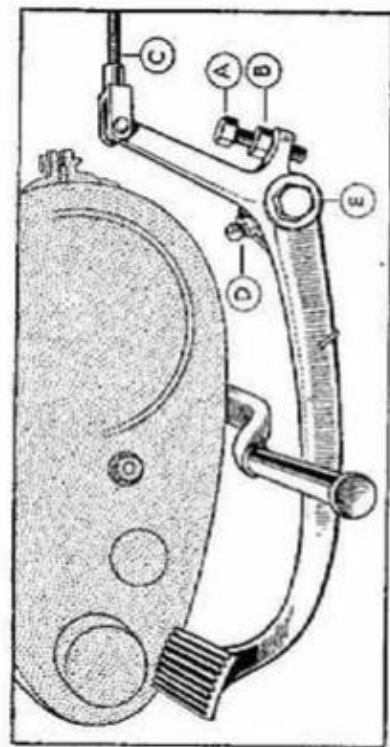

FIG. 14. THE SIMPLE BRAKE PEDAL ADJUSTMENT
- (1) Adjust the position of the rear brake pedal to suit individual requirements.
- (2) Make a minor hand adjustment of both brakes.
- (3) Effect a major adjustment of both brakes by means of the brake shoes.
To Adjust Brake Pedal Position. If the existing position of the rear brake pedal on your Matchless does not suit you it is possible to vary the pedal position within narrow limits (see Fig. 14) by means of the adjuster bolt (A) screwed into the heel of the pedal and secured by the lock-nut (B).